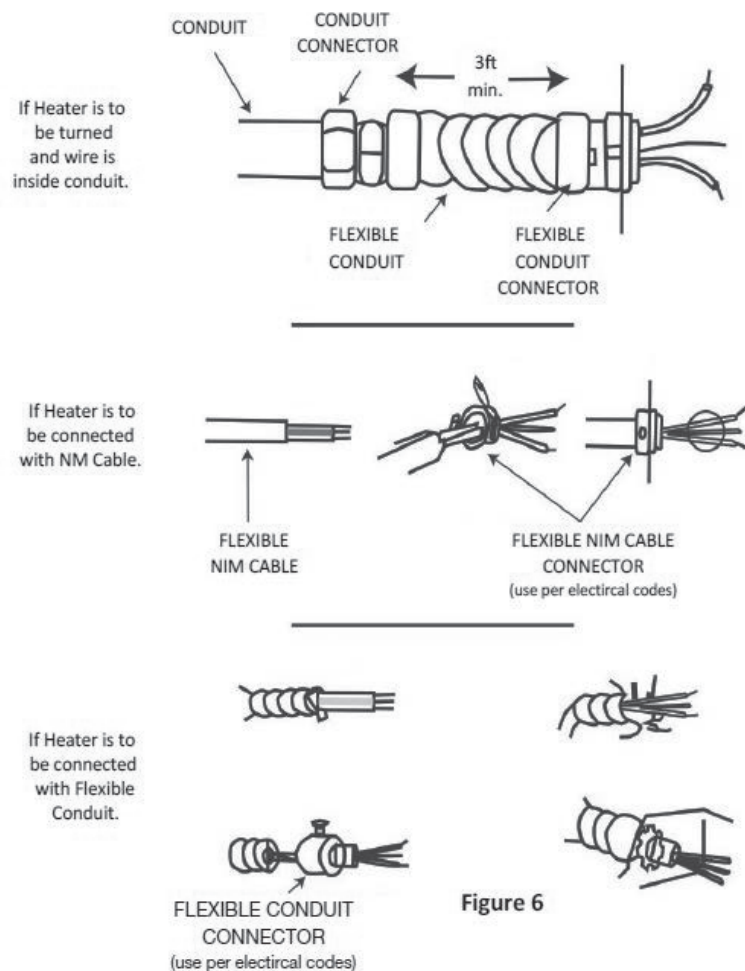

Figure 6
2. Attach flexible cable through a knock-out in the side of the heater following NEC and local codes, **See Figure 6 and SPECIFICATIONS** for recommended wiring and circuit breakers.
NOTE: For certain applications, conduit may be required (**See Figure 6**). Check local electrical codes. If you run the wiring in conduit and wish to be able to turn the heater be sure to purchase enough flexible conduit to allow the heater to be turned.